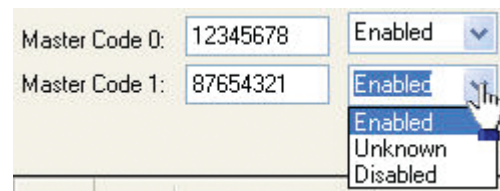
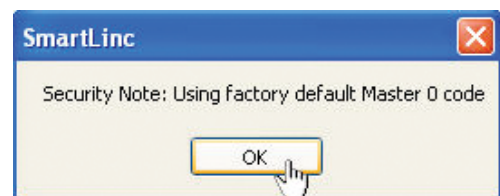

Figure 8
Figure 9
- The SMARTPOINT system has the ability to enroll two separate Master Codes. Master Code 0 must always be enrolled, but Master Code 1 may be selected as Disabled (Figure 8). New codes may be entered on this screen as well for setup in the locks. If new codes are not entered, when sending the setup to the lock a window will pop-up with a security reminder that these codes are set to default (Figure 9). Codes may be changed at the Logic Module as well.
- In this window, it is possible to get the status of the lock. If the locks are in setup mode, select the **Lock ID to Zero (0)** row then click the **REPORT** button at the end of the row. If an error message is received, the lock has probably already been set up (Figure 9). If the locks have already been set up, select the appropriate Lock ID and click the **REPORT** button (Figure 11).